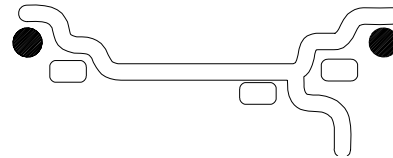

Figure 19
A. DYNAMIC (two planes), suggested for all steel rims. In this case the wheel weights must be clipped onto the rim edges. This function is selected as a default and the LEDs corresponding to the wheel weight location are lit on (Figure 19)